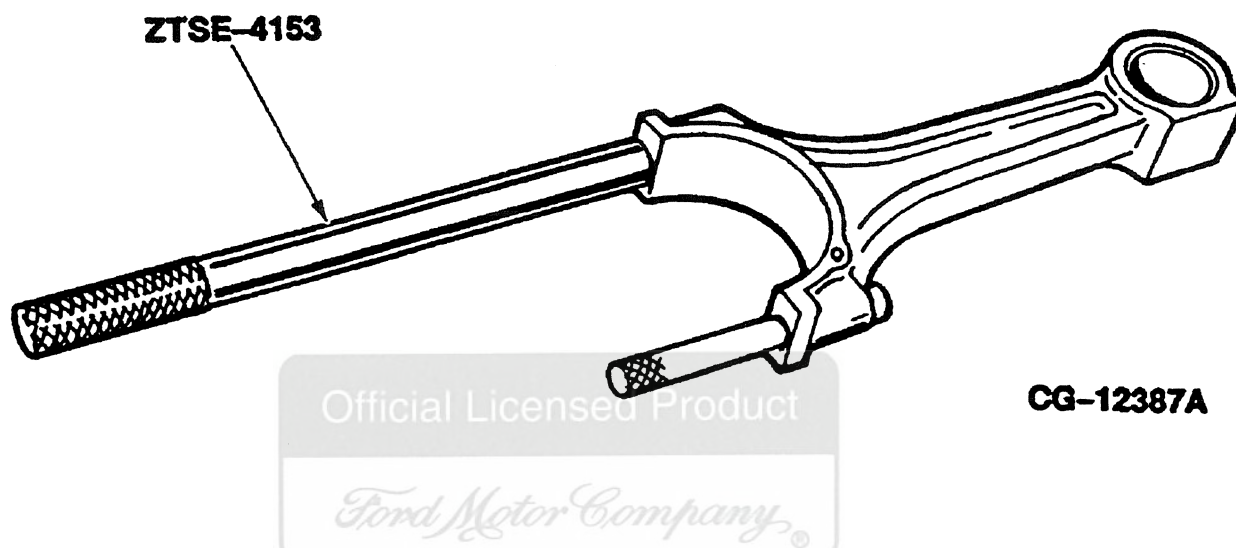

Figure 5.11. Connecting Rod Installation Guide and Protector Caps Installed on Connecting Rod Bolts
**DURING INSTALLATION, INSTALL THE ALUMINUM CONNECTING ROD GUIDE PROTECTOR CAPS (ZTSE-4153) OVER THE CONNECTING ROD BOLTS. THIS PREVENTS DAMAGE TO THE CRANKSHAFT JOURNALS. (SEE NOTE AND FIGURE 5.11).**